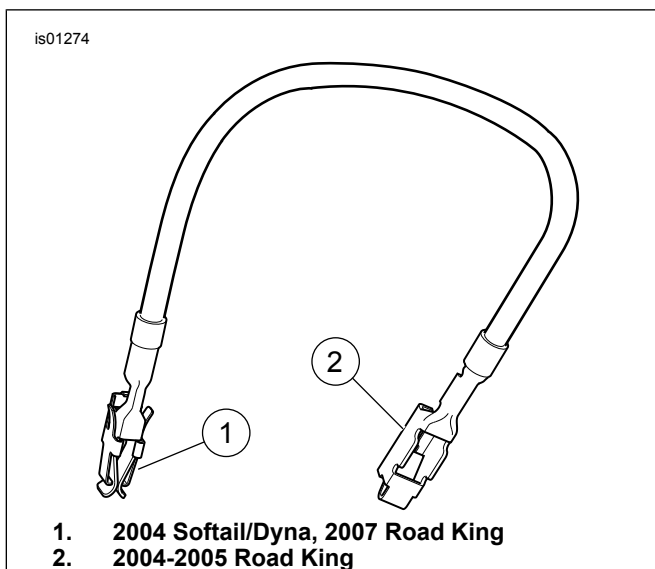
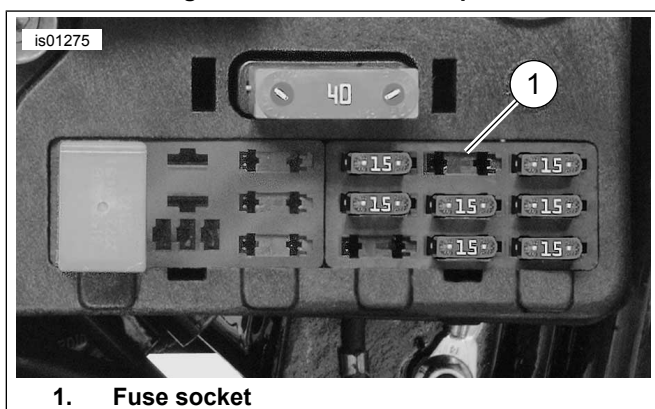
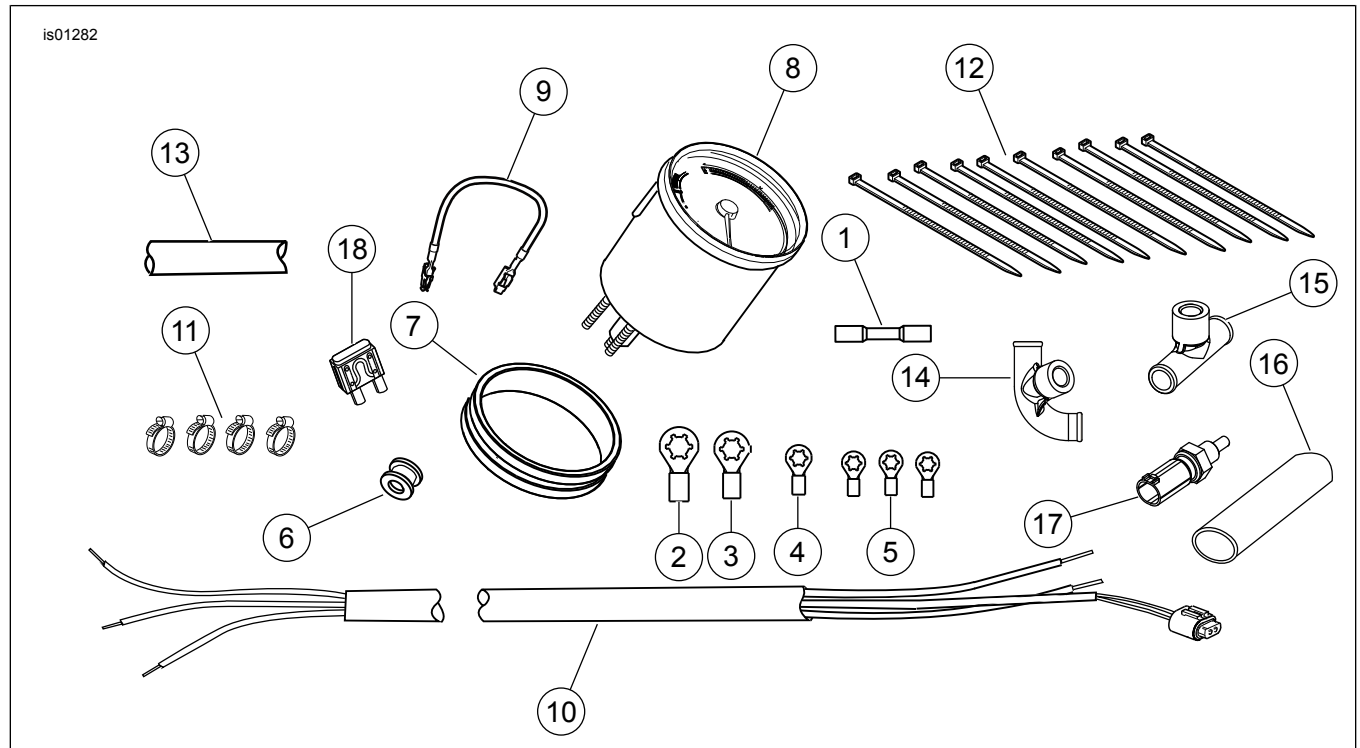

Figure 11. Fuse Block Adapter
Figure 12. Socket for 2 Amp Fuse (2004 Dyna)
Figure 17. Service Parts: One and One-Half Inch Oil Temperature Gauge Kit
3. *1999-2003 Dyna:* See Figure 17. Crimp 5/16 in. ring terminal (2) to ground wire. *All other Dyna models:* See Figure 17. Crimp 1/4 in. ring terminal (3) to ground wire.
2. See Figure 17 and Figure 11. Select the fuse block adapter (9) from the kit which has both the 2004 Softail/Dyna (Figure 11, Item 1) and 2004 Road King (Figure 11, Item 2) and cut off the end that does not fit the P&A IGN (OPEN) socket terminal on the back of the fuse block.
4. See Figure 17 and Figure 12. Install a 2-Amp fuse (18) (Figure 12, Item 1) in the P&A IGN (OPEN) slot.
4. See Figure 17. Insert the leads and crimp the metal insert of the butt splice (1).
1. See Figure 17. Lubricate the conduit with soap and water and pull the wires and conduit through the housing grommet (6).
3. Crimp #6 ring terminals (5) to leads.